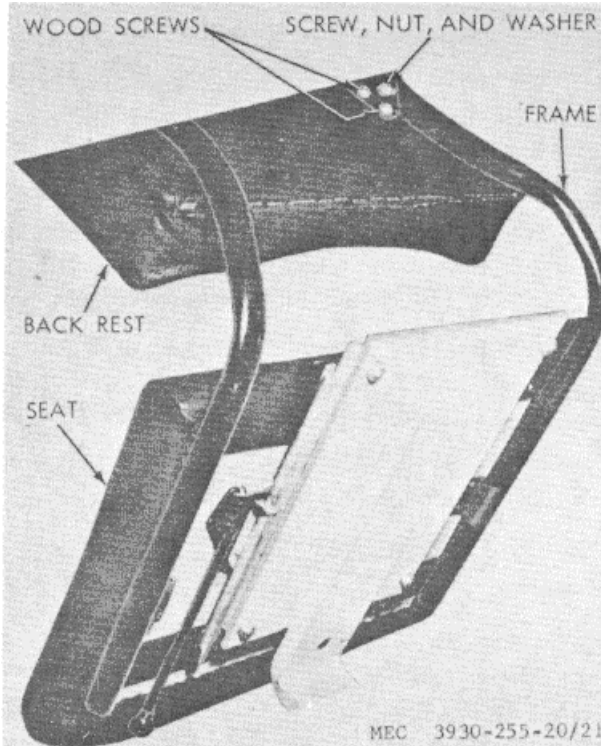

Figure 21. Seat.
a. *Removal.* Remove four screws, nuts, and washers (fig. 21) which attach assembly to brake actuating bar. Remove seat from truck.